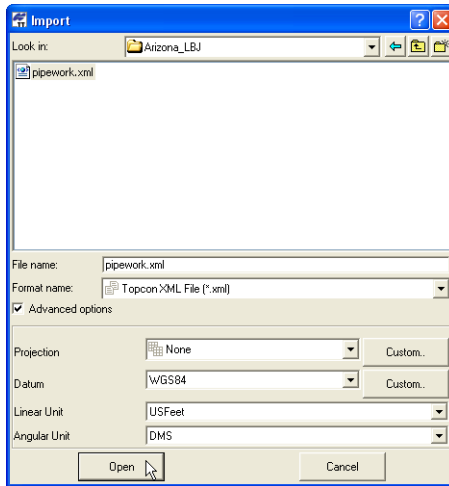

Figure 3-25. Import Topcon XML File
4. Select the desired *Advanced* options (Figure 3-25 on page 3-26): define the coordinate type, projection type, datum, and linear and angular units.